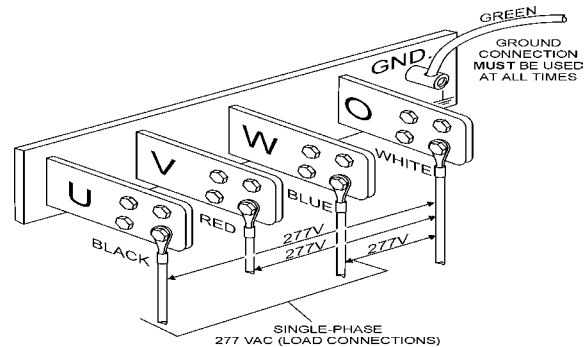

Figure 25. UVWO Terminal Lugs 1Ø277V Connections
2. Connect the load wires to the UVWO terminals as shown in Figure 25.